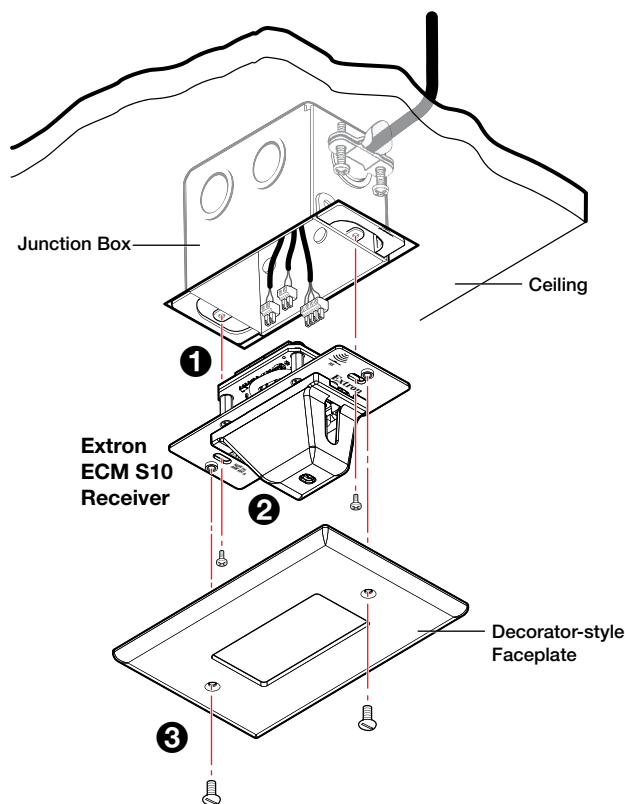

Figure 12. Mounting the ECM S10 Receiver
Figure 12 shows the ECM S10 receiver being mounted to a US 1-gang junction box. The transmitter is mounted in exactly the same way. US 1-gang mounting slots (see figure 1, B, on page 1) can be accessed without removing the sensor cover.
2. Secure the transmitter and receiver to their junction boxes (see figure 12, 1) using appropriate screws (not provided).
7. When all the LEDs light correctly, tighten the screws holding the ECM S10 units to the junction box, taking care not to disturb the alignment between the transmitter and receiver (see figure 12, 1, above).